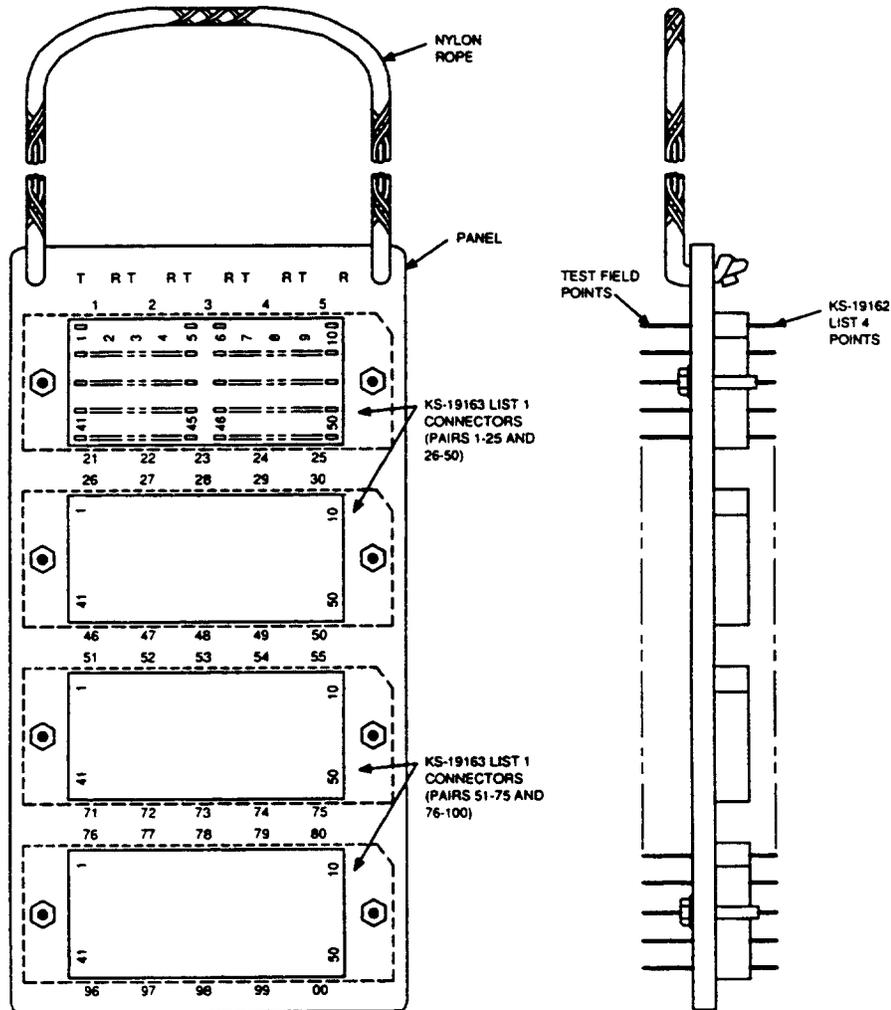

Figure 24. Pick Test Panel Assembly
6.07 A separate pick test panel assembly (Figure 24) is furnished with the T test connector. When in use, the four KS-19162, L4 connectors are attached to the pick test panel, tone is applied, and a B test point is used to identify individual pairs.